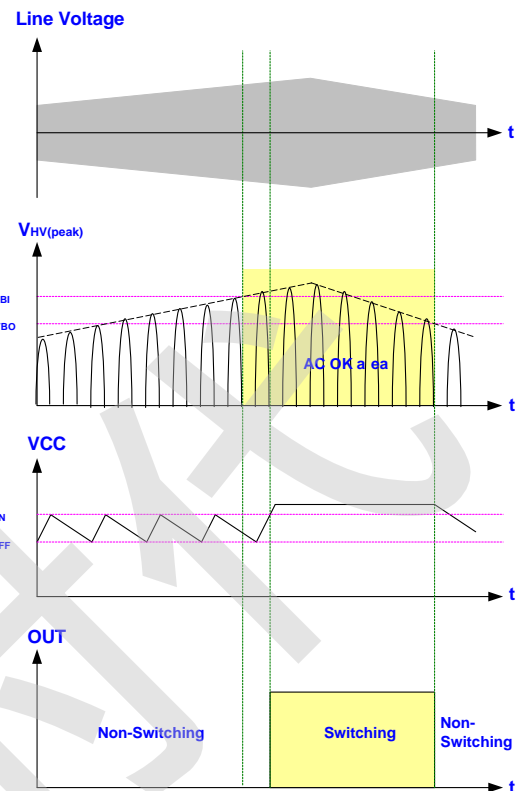

Fig. 11
The LD5763K3 features burn-in/out function on HV pin. As the built-in comparator detects the half wave rectify line voltage condition, it will shut off the controller to prevent from any damage. Fig. 11 shows the operation. When  $V_{HV} < HVBO$ , the gate output will remain off even when the VCC already reaches UVLO(ON). It therefore forces the VCC hiccup between UVLO(ON) and UVLO(OFF). Unless the line voltage rises over  $HVBI$   $V_{AC}$ , the gate output will not start switching even as the next UVLO(ON) is tripped. A hysteresis is implemented to prevent the false-triggering during turn-on and turn-off.